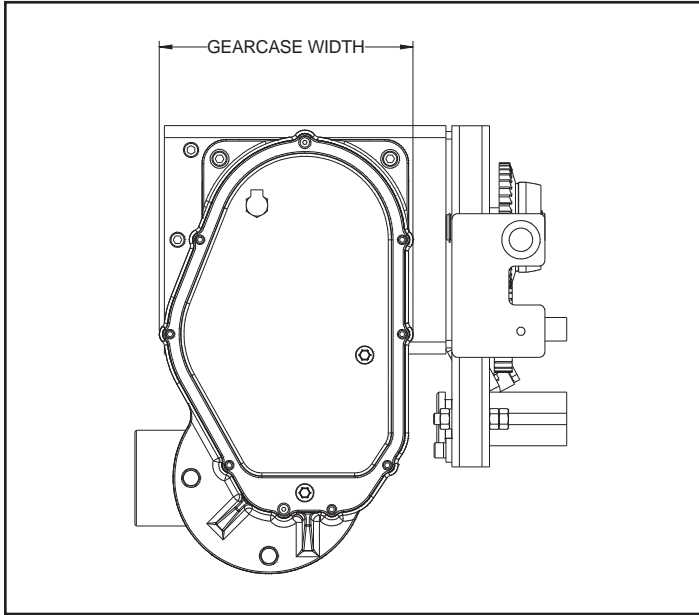

Figure 4-2. Gearcase Width Illustration
- e) Refill through filler hole to proper level (bottom of oil level plug hole) using GCOH (Paragraph 4-7). The amount of oil required depends on the overall size of the gearcase. Both versions of the "A" Frame hoist utilize the same size gearcase, although their contents differ. To confirm the version of your gearcase refer to Figure 4-2. Your gearcase should have a similar shape to that shown and will measure 10 in width and requires approximately 3 quarts of oil.